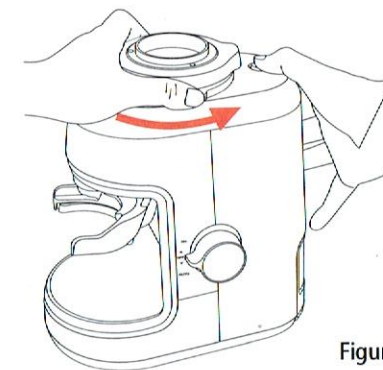

Figure 9
3. To remove the grind cartridge, press and hold down the RELEASE button on the top of the grinder base and with the other hand hold the cartridge grip tabs and turn anti-clockwise, see figure 9.